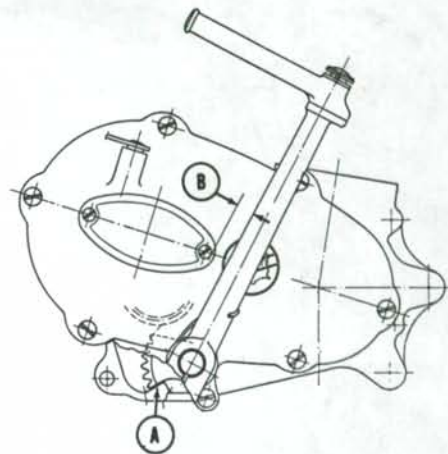

Fig. A2-9—Refer to text when installing the kick starter pedal.
kick starter pedal (24), turn the starter shaft counter-clockwise until gear contacts case as shown at (A—Fig. A2-9). Install starter lever on shaft so that distance (B) between lever and front of screw is 1/4-1/2 inch, then hook return spring over lever.